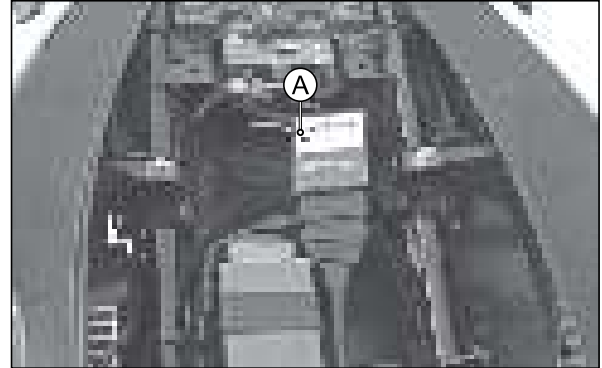

Fig. 7.5
- The LED indicator (A) of VCI blinks in red colour and indicates that the VCI is ready to be connected to hand held tool. (Fig. 7.5)